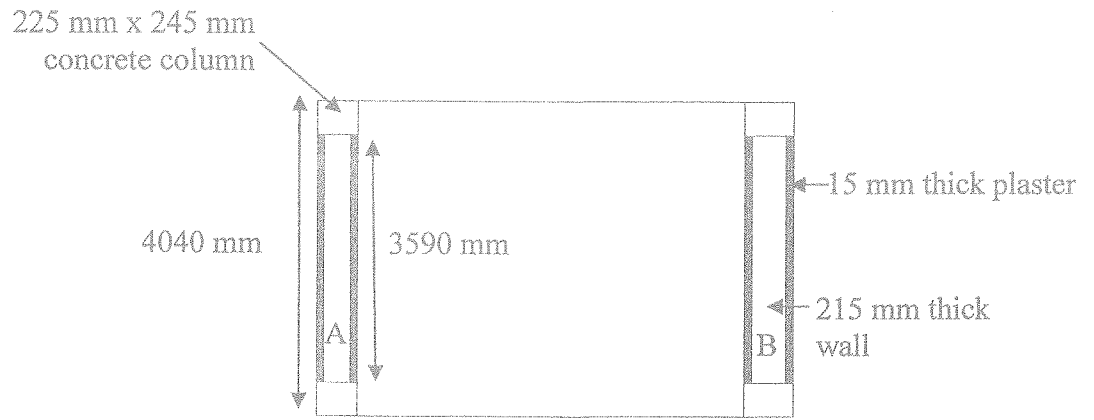

Figure Q2(i): Plan view of the proposed garage
- b) Figure Q2 (i) shows the plan view of a proposed room to be constructed as the garage of a house. It consist of two similar walls; each of 245 mm x 3590 mm (including 15 mm thick plaster). Height of the room is 2710 mm. Four RC columns (225 mm x 245 mm) will be constructed as shown in Figure Q2 (i). The characteristic dead load of 6.11 kN and characteristic imposed load of 4.8 kN are acting on each wall. Wind and other lateral loads are negligible. Density of the bricks is 24 kN/m³, and 15 mm thick plaster weights is 0.25 kN/m² of surface area. Available brick size is 215 mm x 102.5 mm x 65 mm. Assume 40% of the loads will be resisted by four columns.
- iii) After the completion of construction, the owner needs to construct another garage attached to proposed one as shown in the Figure Q2(ii). The second garage consists of a reinforced concrete slab as a roof. The wall height of the second garage is 2710 mm. The 40% of loads will be resisted by four columns at the corner. Calculate the design loads for wall A, B and C, separately. Consider characteristic dead load and imposed load from slab are 10.37 kN and 16.28 kN, respectively.